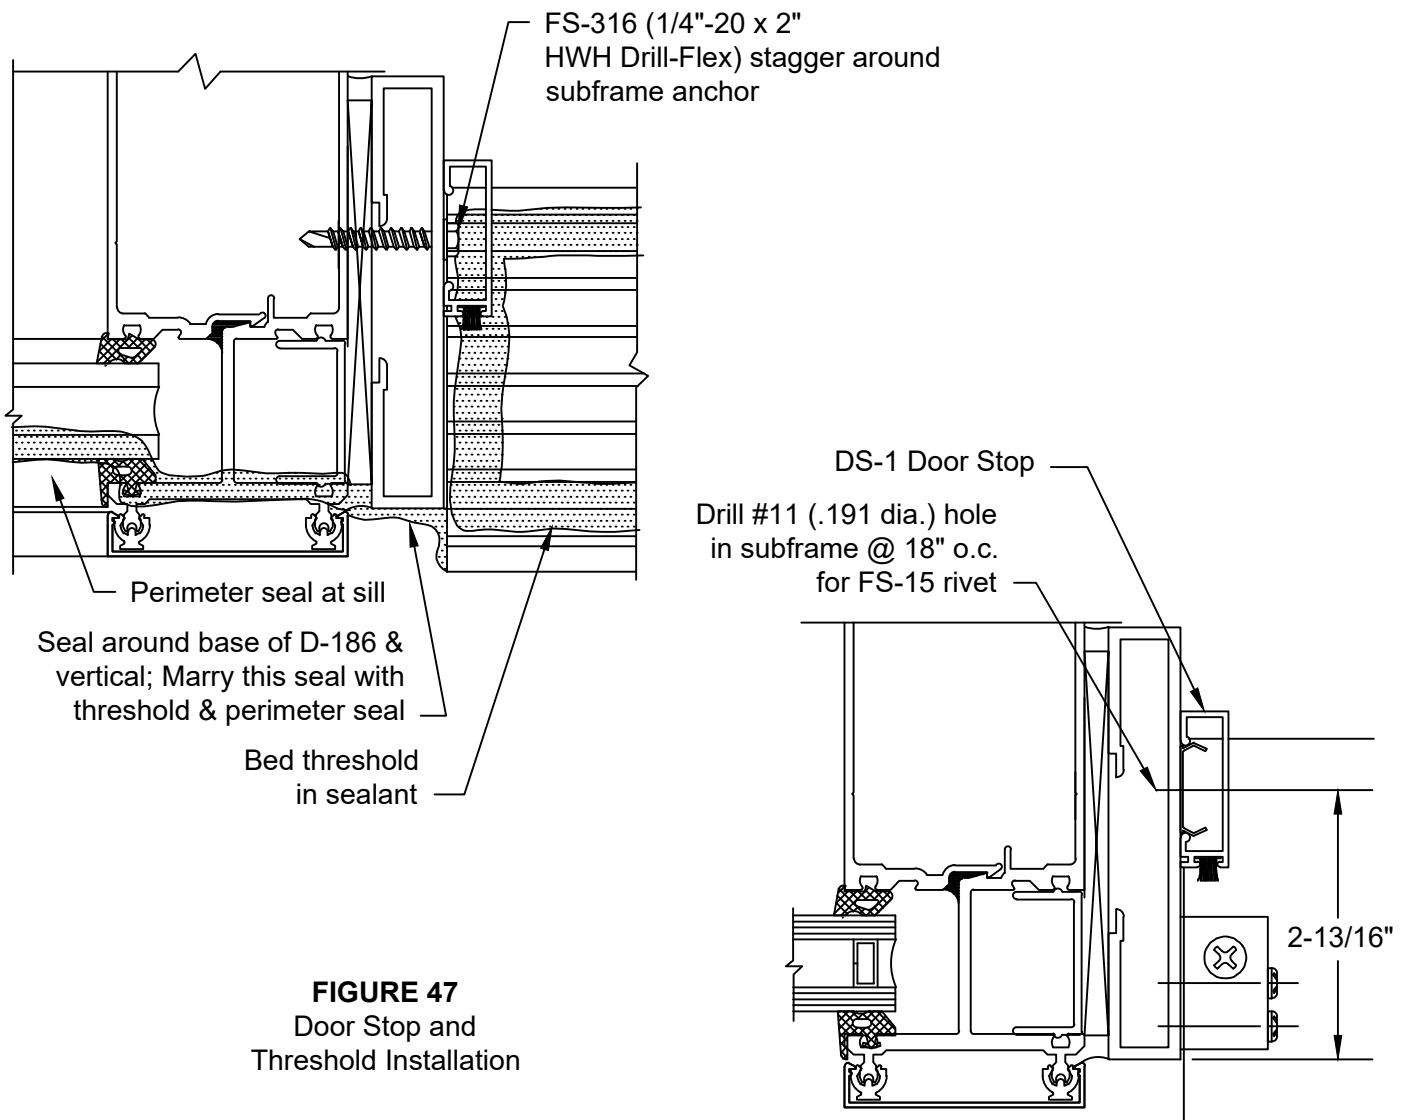

FIGURE 47
- D.2.4 Bed threshold in sealant, attaching to TH-44 clips with FS-42, #12 x 1/2" Phillips Flat Head screws. Marry threshold seal with subframe and main system seal. SEE FIGURE 47.
- D.2.5 Drill #11, .191 diameter holes in D-186 subframe for FS-15 rivets. Install door stops onto subframe with SC-1 clips at 18" O.C. Locate clips around the subframe anchor screws. SEE FIGURE 47. Vertical stops run through.